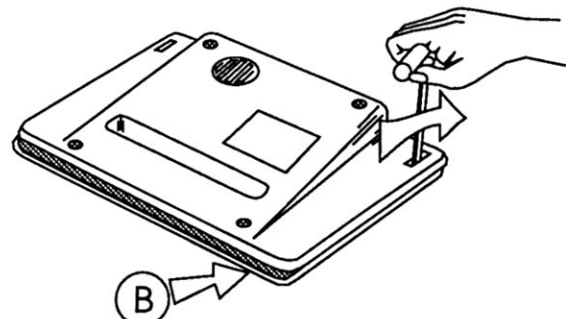
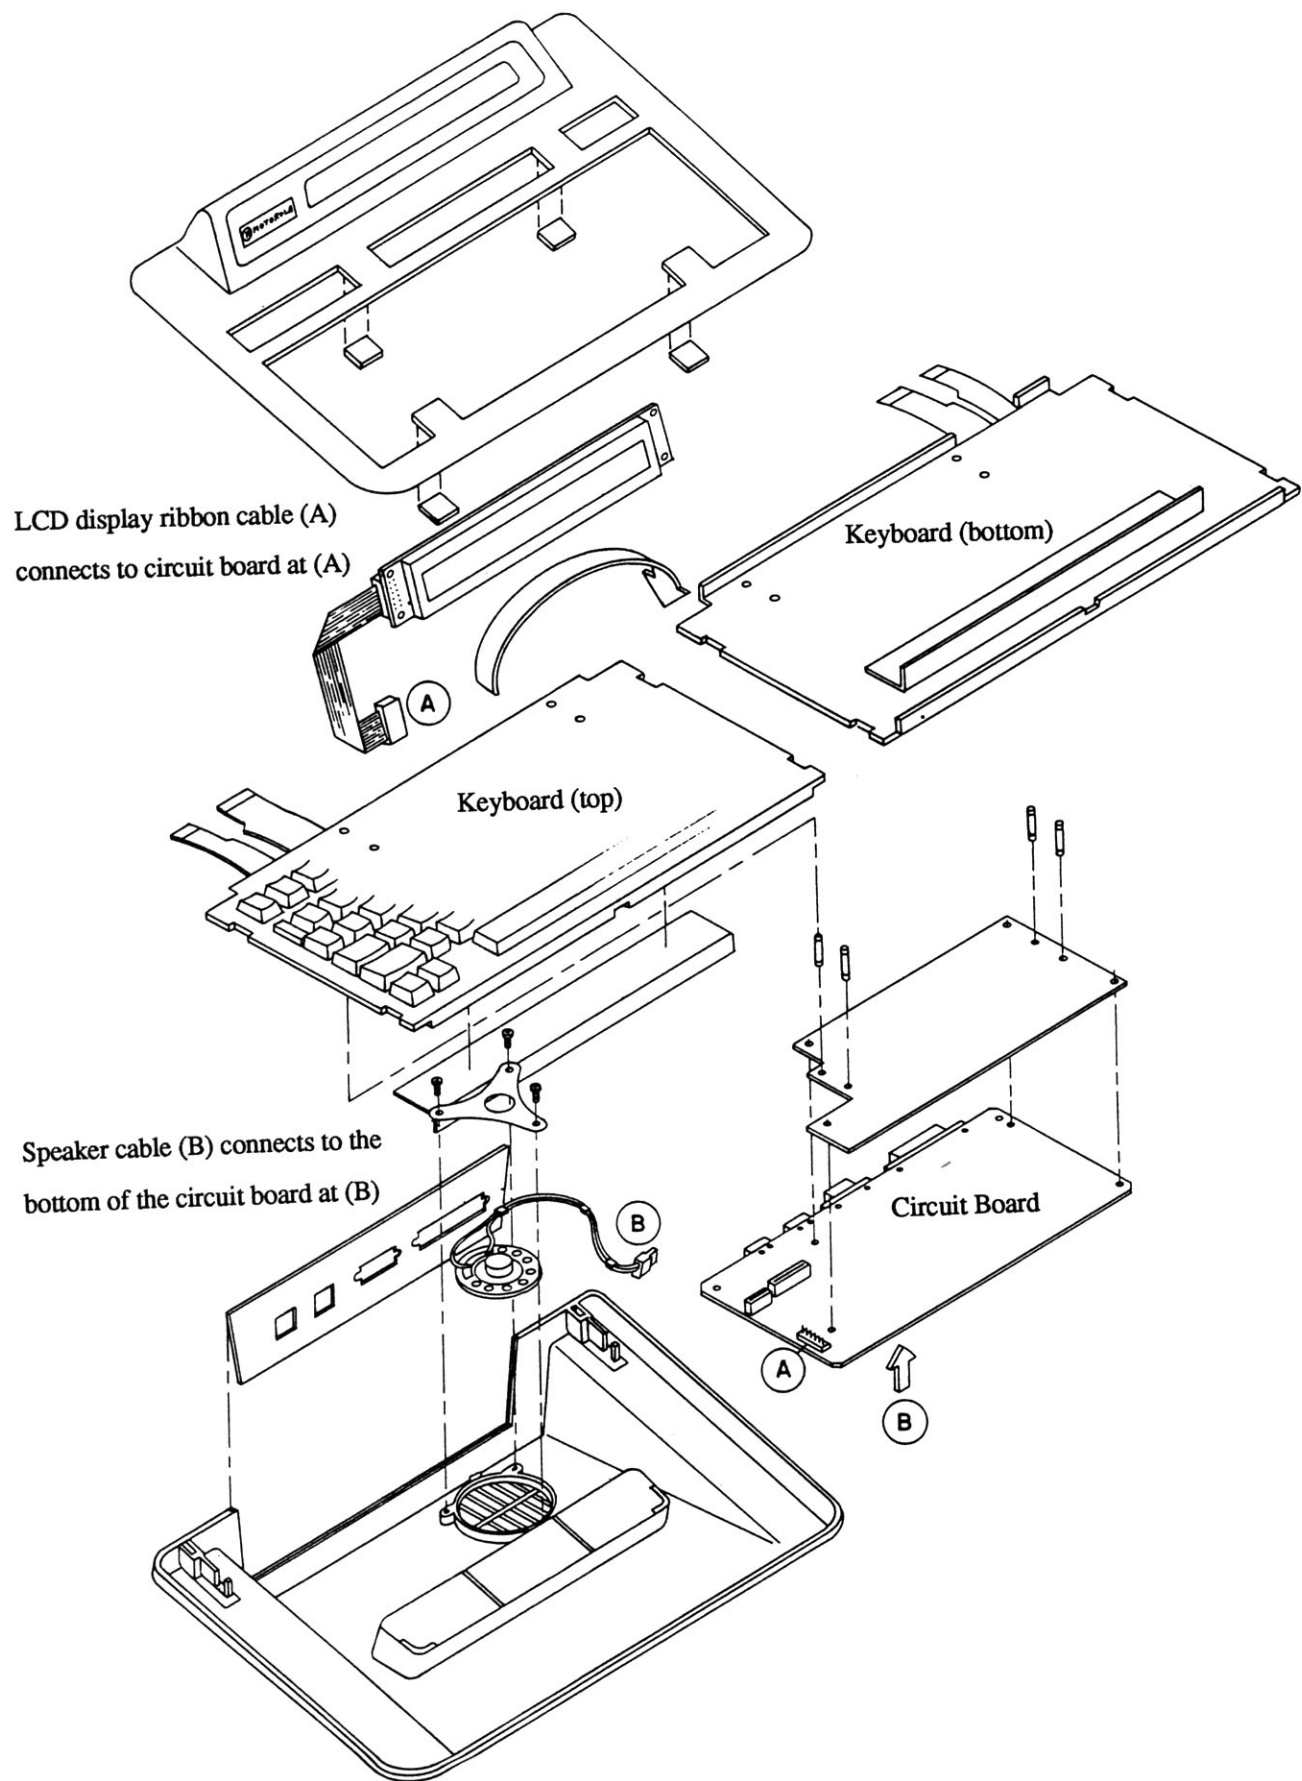

Figure 3-5: Opening Case (right side)
Figure 3-6 AlphaMate Exploded View
Step 6 While holding the fastener open, pivot the T-handle tool to open the case. The case will open at point B (see figure 3-5).
Step 7 After the case is unlocked and opened as illustrated in figure 3-5, the top and bottom can be separated. When separating the case, care must be exercised so that ribbon cables and connectors are not damaged. See figure 3-6 for an exploded view of the AlphaMate.